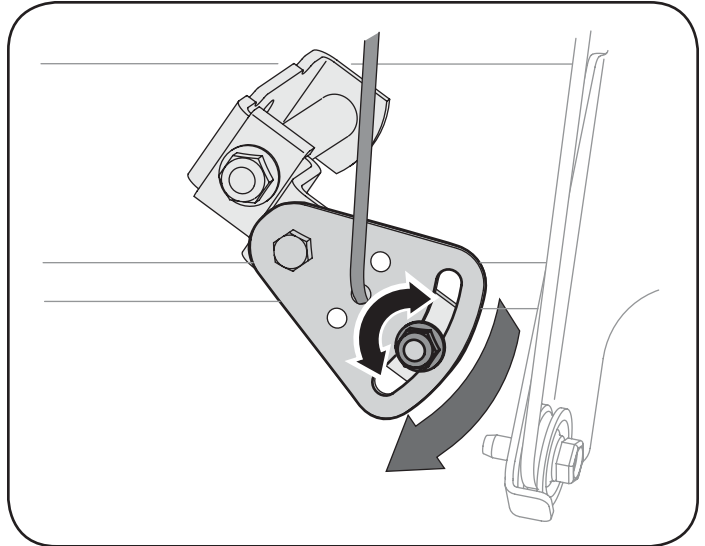

Figure 28
2. Loosen the hex nut on the shift cable index bracket. See Figure 28.